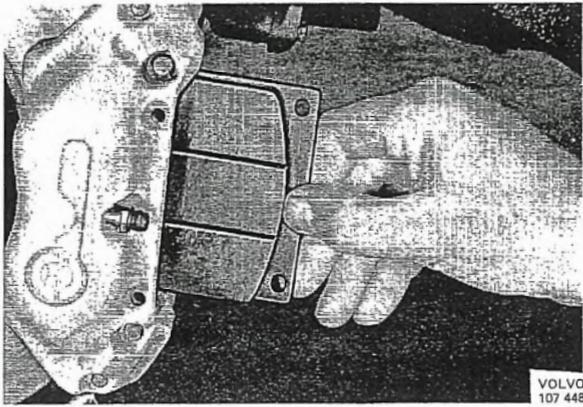

Fig. 5-17. Fitting brake pads, front brake caliper
7. Fit the new pads, see Figs. 5-17 and 5-18. Place one of the lock pins in position and fit the damper springs and the other lock pin. Fix the pins with new locking clips (alt. 1). Check that the pads are movable.